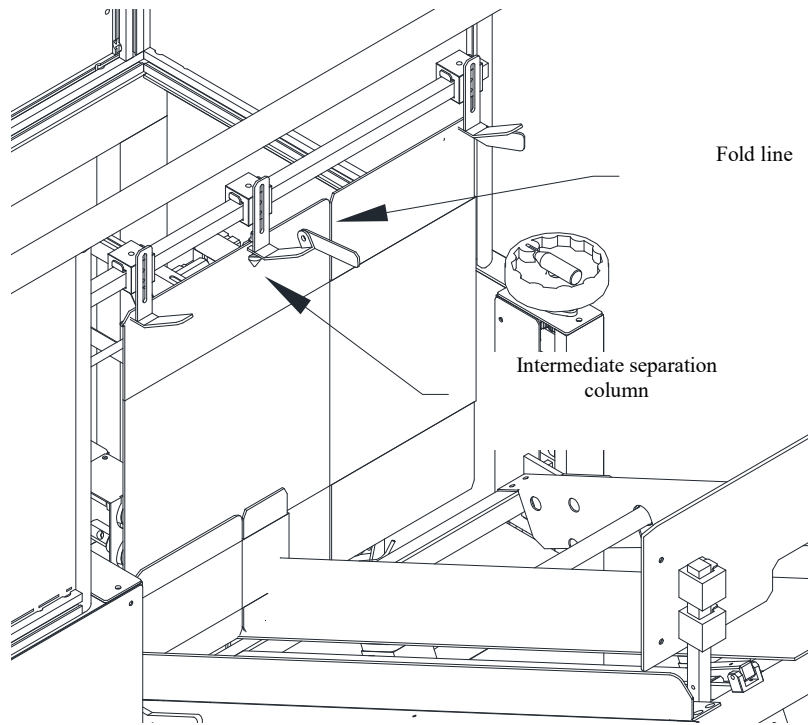

Figure 5
5) Adjust the conical adjusting block to make it in the same line with the folding of the carton. As shown in Figure 5: